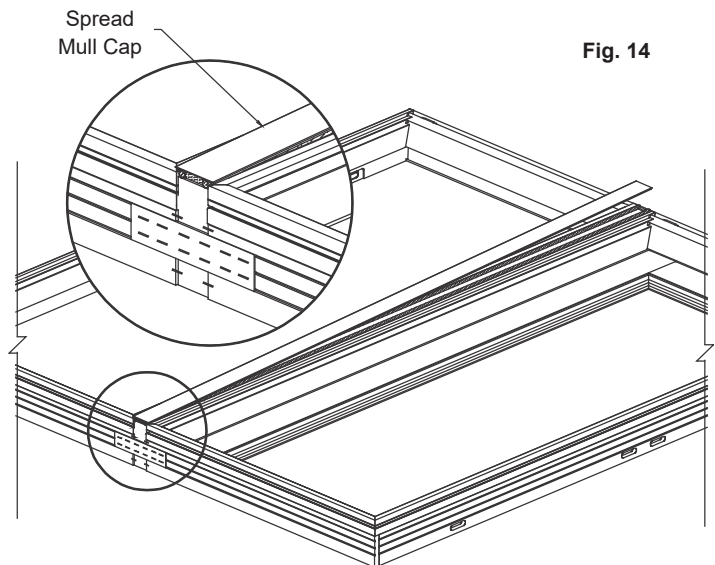

Fig. 14
- Apply the spread mull cap starting at one end of the unit. Using a hammer and a wood block, pound the mull cap into the accessory grooves at the mull until it is seated firmly against the cladding. See Figure 14.